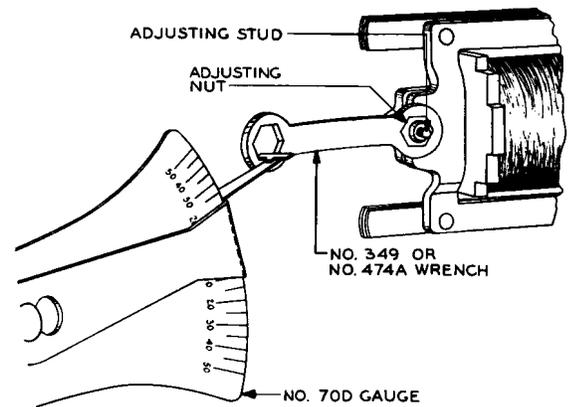

Fig. 17 - Method of Checking for Adjusting Nut Tightness
- (2) If in doubt as to whether or not the adjusting nut is tight enough, the tightness may be checked with the No. 70D gauge and No. 349 or No. 474A wrench as shown in Fig. 17. The nut should not turn when a pressure of 22 grams or less is applied, if the No. 349 wrench is used or with a pressure of 13 grams if the No. 474A wrench is used.